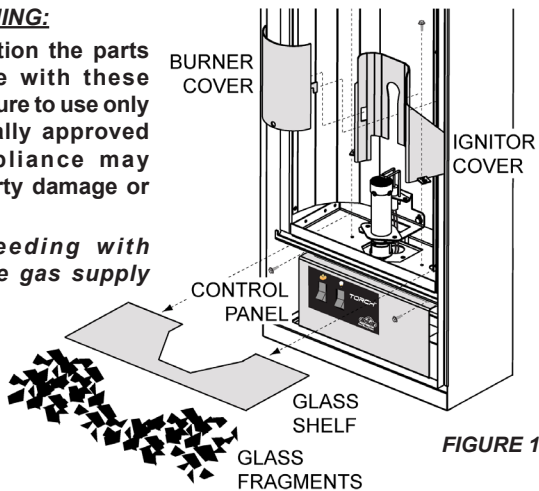

FIGURE 1
2. Remove all glass fragments from the bottom of the firebox, then remove the glass shelf. Ensure no glass fragments are left in the firebox. Remove the burner cover from the ignitor cover, then remove the two screws securing the ignitor cover. Set aside. (FIGURE 1)
3. Remove the 2 screws securing the control panel. (FIGURE 1)